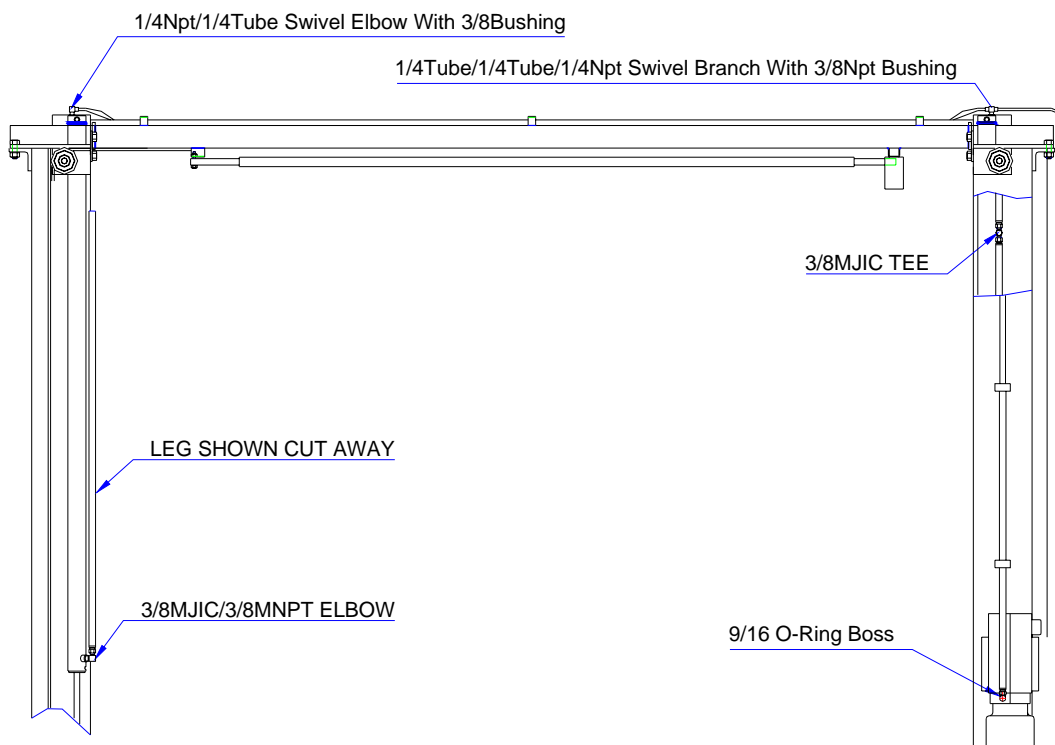

Fig. 5
**12. Hydraulic system, figure 5.**